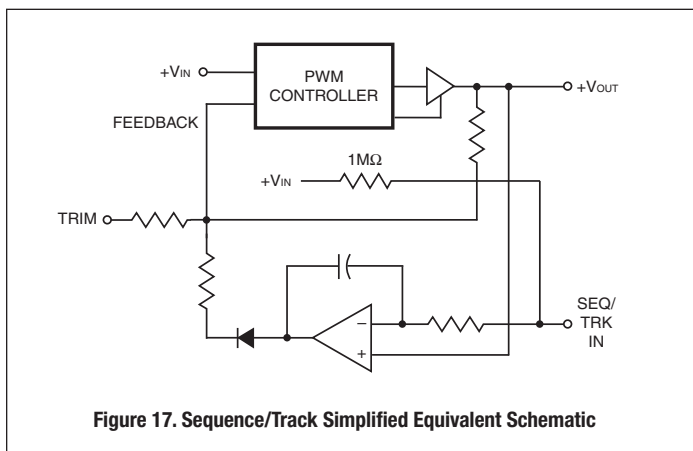

**Figure 16. Proportional Phasing**
Figure 16 shows both a RC ramp on Master POL A and a proportional tracking divider (R2 and R3) on POL B. We have also added an optional very small noise filter cap at C2. Figure 16's circuit corresponds roughly to Figure 11's timing for power up.
- [7] The Sequence is a sensitive input into the feedback control loop of the converter. Avoid noise and long leads on this input. Keep all wiring very short. Use shielding if necessary. Consider adding a small parallel ceramic capacitor across the Sequence/Track input (see Figure 16) to block any external high frequency noise.